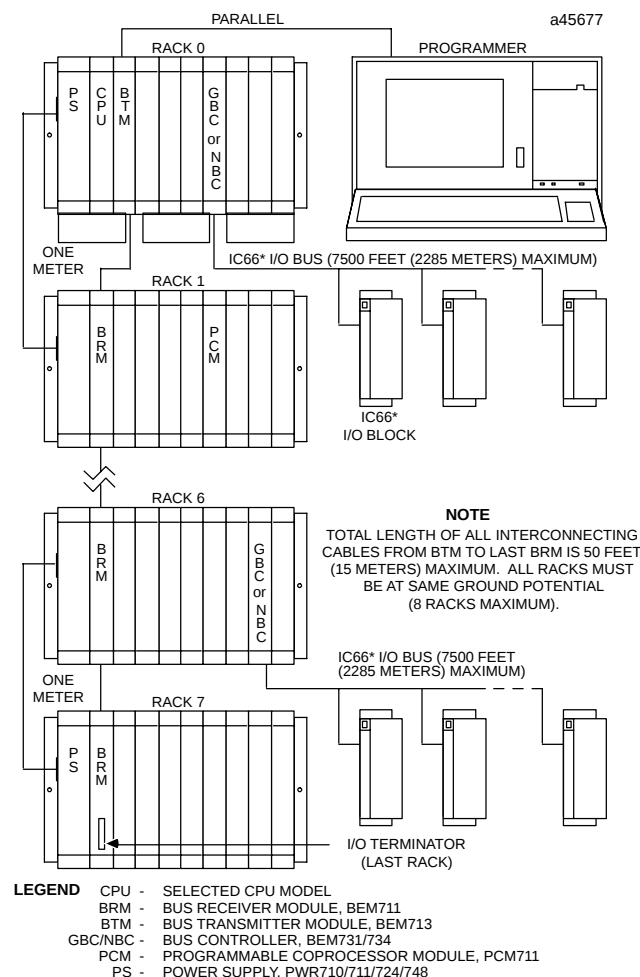

Figure 1. PLC System Configuration Example
- Install the CPX 772 module in slot 1 of rack 0 (see Figure 1).
For a parallel interface (MS-DOS programmer only) the programmer is connected to the top port on the Bus Transmitter Module (IC697BEM713) as shown in Figure 1. Consult the applicable *Programming Software User's Manual* for a description of programming functions.